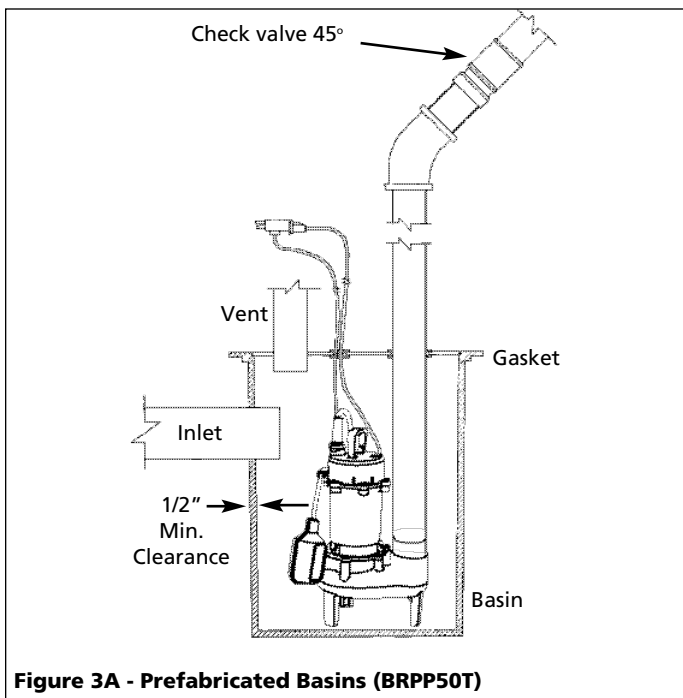

Figure 3A - Prefabricated Basins (BRPP50T)
6. The BRPP50T pump has a detachable tether switch with a piggyback plug (see Figure 3A). The length of the tether (distance of cord from float to clamp) should not be set shorter than 3-1/4 inches and should not be used in a basin smaller than 14 inches in diameter. If using a differential other than the factory setting, be sure when the pump shuts off at least 4" of fluid is left in the basin so the impeller remains submerged.